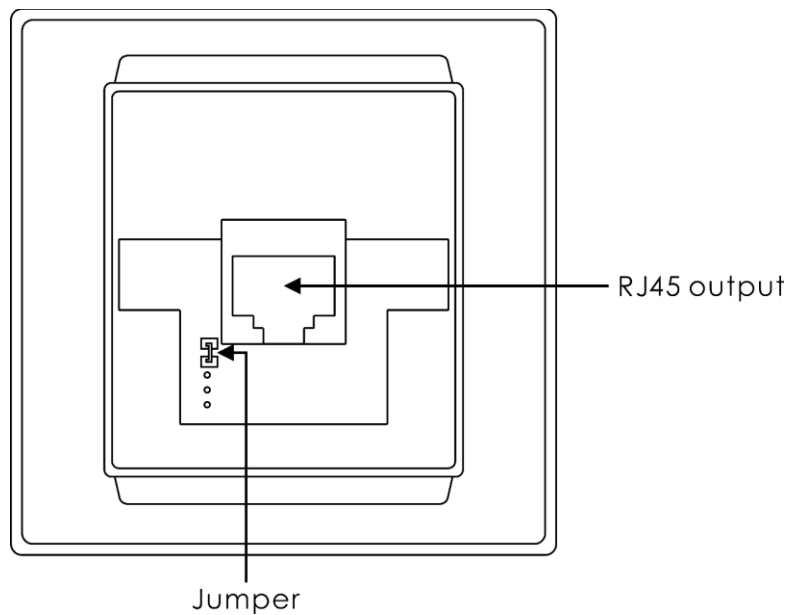

Fig. 06
- 02) You can install the Wallpanel in two ways, **with or without the jumper**. Please, see Fig. 06 above.